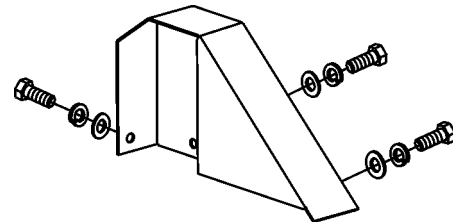

Figure 6. V-Belt Cover
1. Remove the bolts that secure the V-belt cover (Figure 6) to the saw frame.